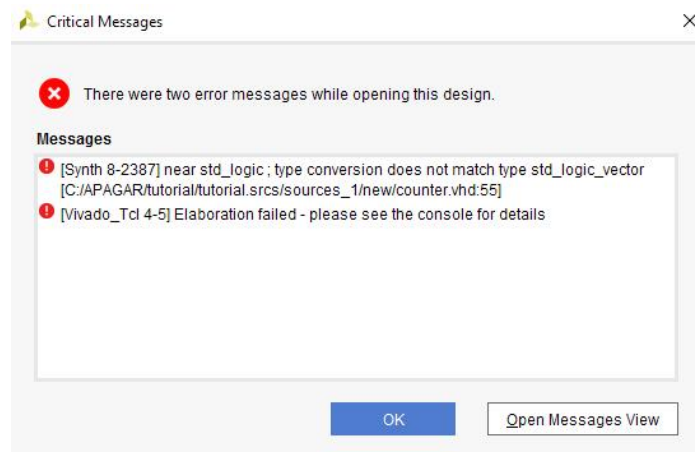

Figure 13
8. If there is a syntax error in our RTL, the parsing fails, and we get error messages telling us what is wrong (Figure 13)